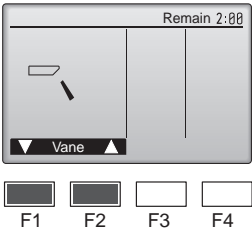

Fig. 7-6
- ① Check the auto vane with the **F1** **F2** buttons. (Fig. 7-6)
② Press the **↶** button to return to “Test run” operation.
③ Press the **⏻** button.